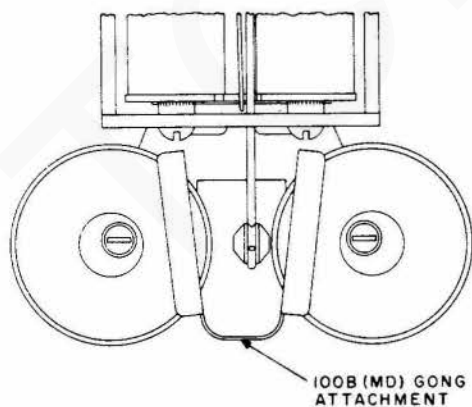

Fig. 3—100B (MD) Gong Attachment on B-Type Ringer
(b) The 100B (MD) gong attachment is installed as shown in Fig. 3.
(c) If the 100B (MD) gong attachment is used on the ringer in a 531-type (MD) subscriber set, the open end of the attachment must be located in the opposite direction to the one shown in Fig. 3 to prevent interference between the attachment and the subscriber set cover.